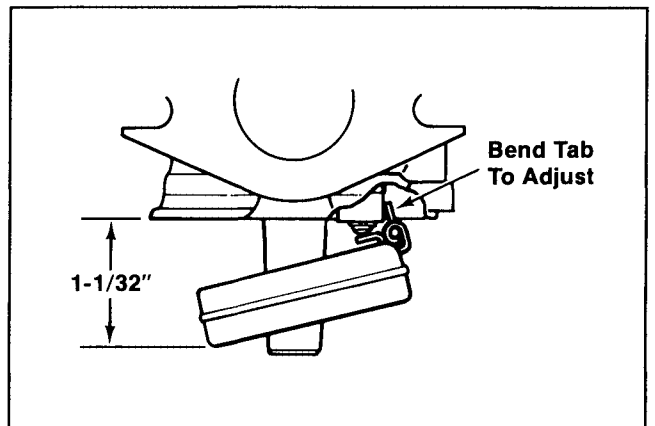

Figure 6-14. Setting Float Drop.
4. **Set float drop:** Turn the carburetor over to its normal operating position and allow float to drop to its lowest level. The float drop should be limited to 1-1/32" between the machined surface of body and the bottom of the free end of float. Bend the float tab with a small screwdriver to adjust. Refer to Figure 6-14.